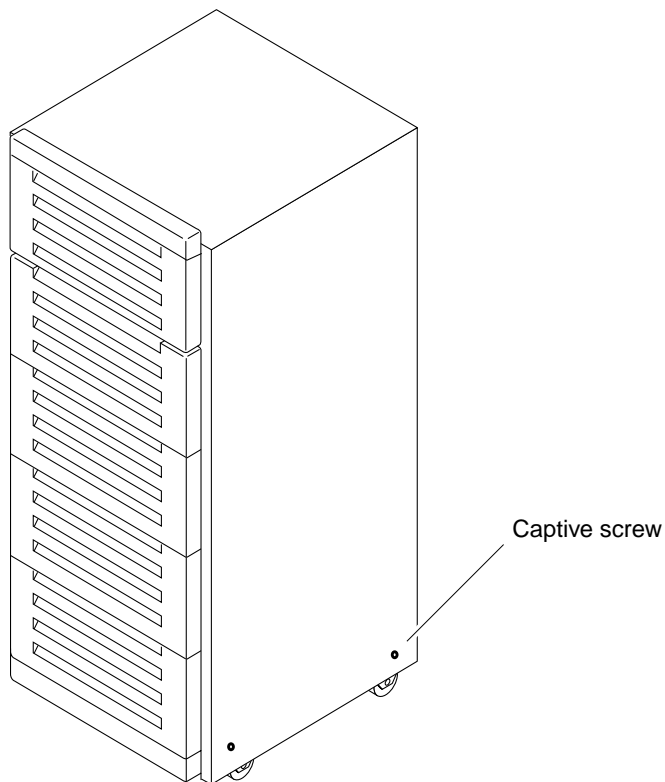

FIGURE 4-2 Removing the Side Panel
1. Loosen the two captive screws (FIGURE 4-2) at the bottom of the side panel.